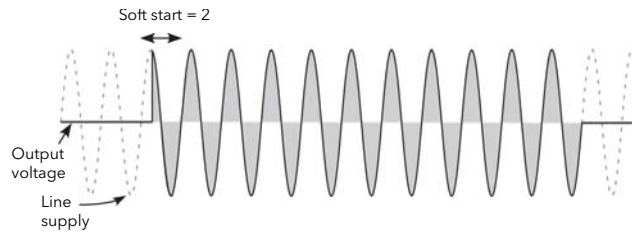

Figure 90 Soft start example
- Soft Start** For Burst Firing only, this is the soft start duration, in supply voltage cycles, applying a phase angle ramp at the beginning of each on period (Figures 90).